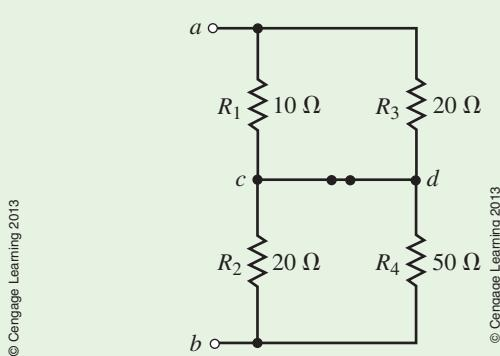

FIGURE 9–22
Step 5: The open-circuit voltage between terminals *a* and *b* is found by first indicating the loop currents I_1 and I_2 in the circuit of Figure 9–23.